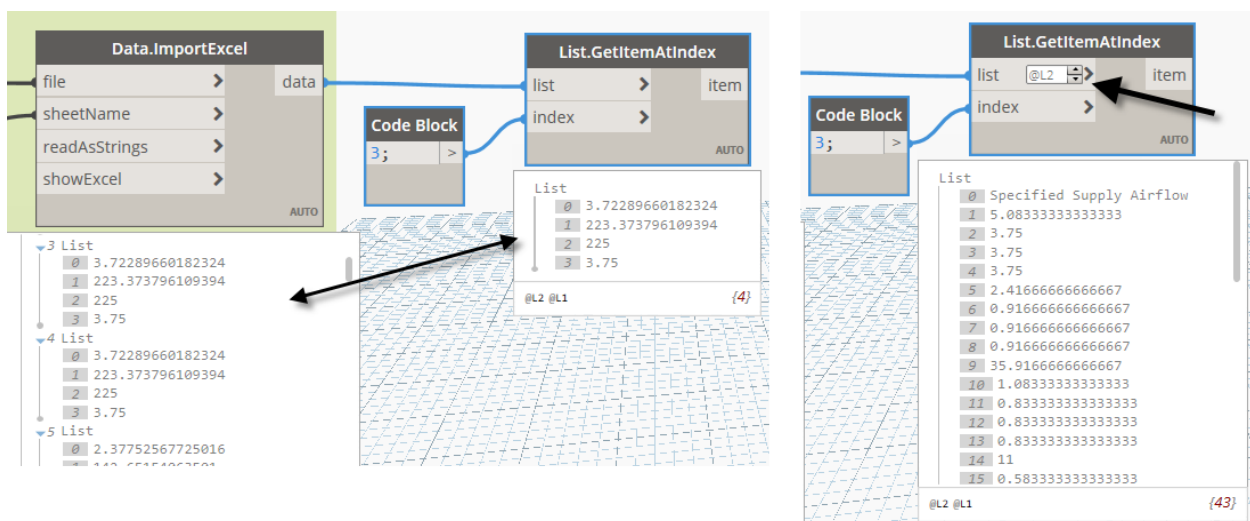

FIGURE 69
12. Run the graph and expand the preview bubble on the **GetItemAtIndex** node (see the left side of Figure 69).
13. Next to the ***list*** input, click the list at levels indicator and check the Use Levels checkbox. Leave it set to the default of @L2 and run the graph (this is index 3 from each L2 list) (see the right side of Figure 69).